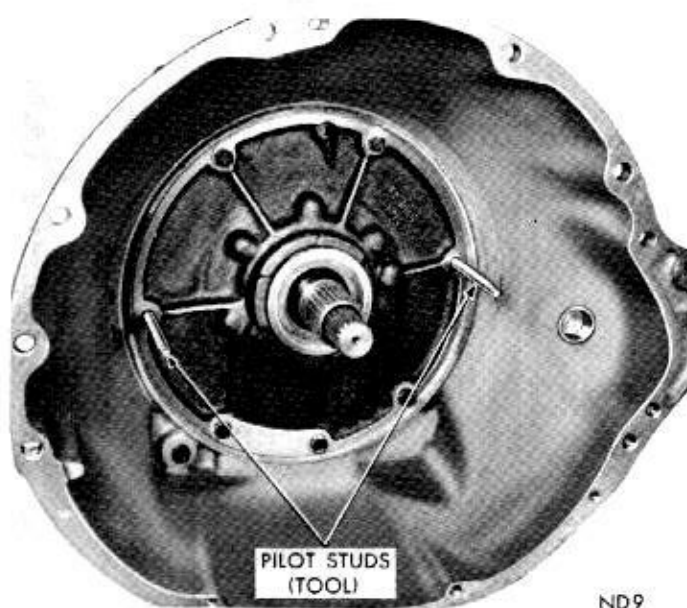

Fig. 88—Installing Pump and Reaction Shaft Support Assembly
(1) Screw two pilot studs, Tool C-3288 in pump opening in the case (Fig. 88). Install a new gasket over the pilot studs.
(2) Place a new rubber seal ring in the groove on outer flange of pump housing. Make sure seal ring is not twisted. Coat seal ring with grease for easy installation.